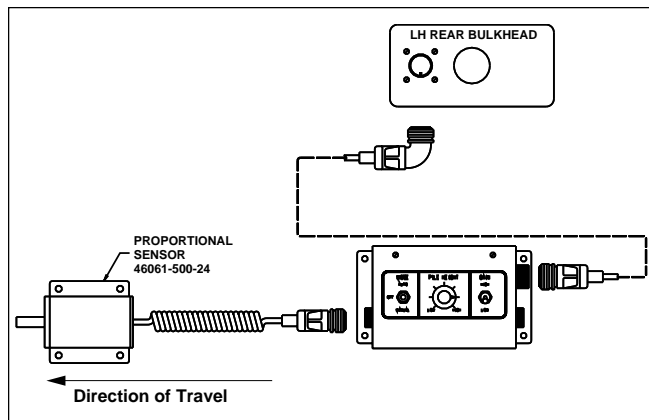

Figure 3
- 1) Plug one end of the power cable into the LH rear bulkhead of the tractor and the other end into the LH feeder control mounted on the screed (Figure 3). This cable can be left connected all the time.
- 3) Remove the protective cap from the LH side of the feeder control and plug in the coiled sensor cable (Figure 3).